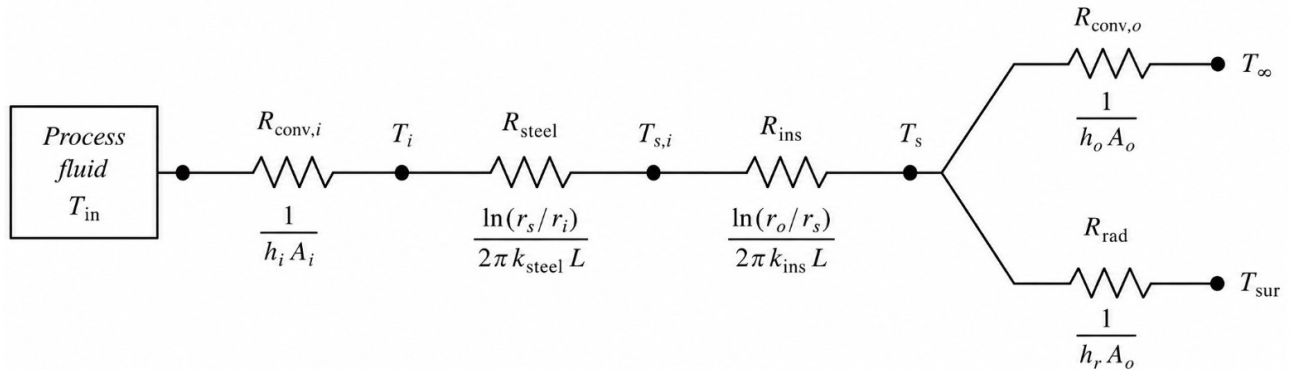

FIGURE 1. THERMAL NETWORK FOR THE COMPLETE VESSEL SYSTEM. The inside-film resistance is neglected; the specified temperature is applied at the inner steel wall.
**Question 2. Analyze the complete vessel system shown in Figure 1.** Use the Trial 3 results. Heat passes through the steel wall and insulation in series and then leaves the outer surface by convection and radiation in parallel.